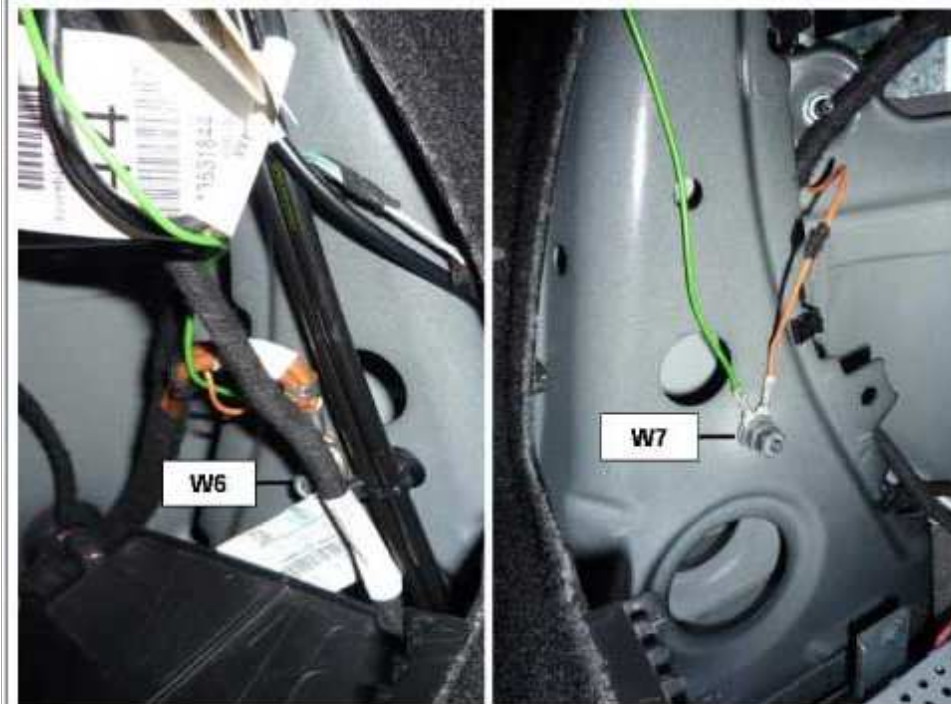

Figure 5
8. Attach repair harness to left wheel arch trunk line ground terminal W6, and right trunk line ground terminal W7 (Figure 5).